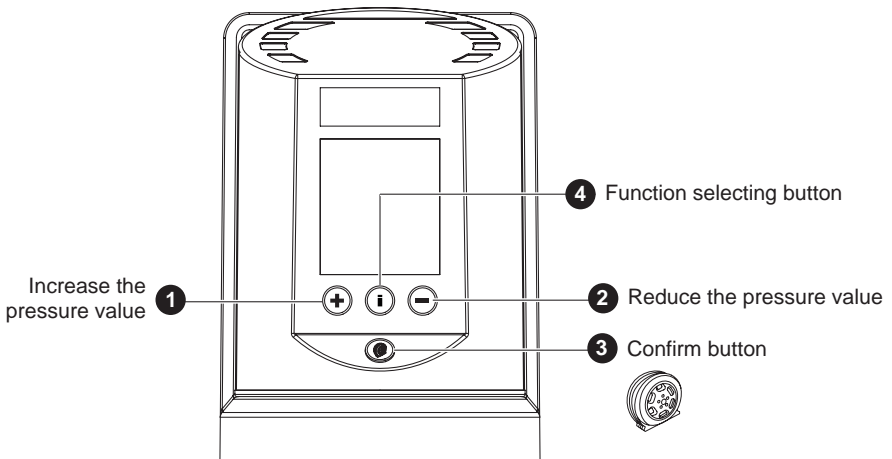

Fig. 2
1. Operating Button (See Fig.2)